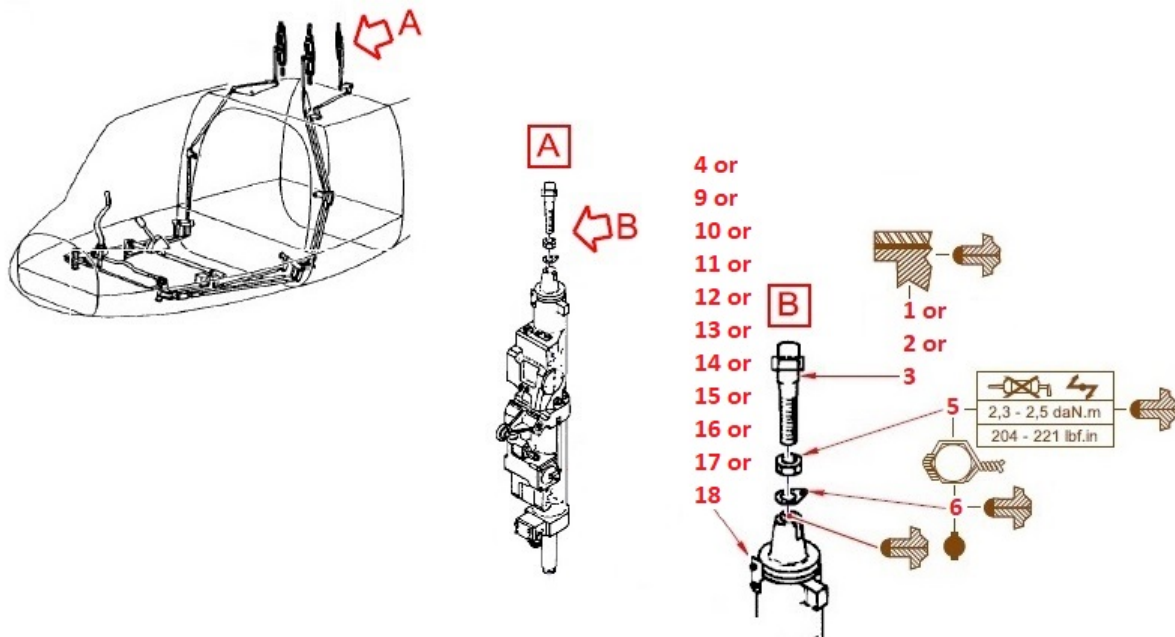

Figure 1
- 4.2. Do a check of the nut (5) tightening torque of the Ball bearing end EMRL8RSP3D (1) or Ball bearing end EMRL8RSP3C (2) or Ball bearing end 6701800800 (3) of the Main rotor servo-control SC8034-2 (4) or Main rotor servo-control SC8034-1 (9) or Main rotor servo-control SC8033-2 (10) or Main rotor servo-control SC8033-1 (11) or Main rotor servo-control SC8032-2 (12) or Main rotor servo-control SC8032-1 (13) or Main rotor servo-control SC8032 (14) or Main rotor servo-control SC8031A (15) or Main rotor servo-control SC8031-2 (16) or Main rotor servo-control SC8031-1 (17) or Main rotor servo-control SC8031 (18)(Figure 1). Refer to Work Card Assembly by screws and nuts - Joining MTC 20-02-05-404.
- Torque until the marks align but do not torque to more than the max torque value given in figure 1
- Use Lock-wire CM 776 to safety the nut (5) with the nut retainer (6).
- The upper end of the Main rotor servo-control SC8034-2 (4) or Main rotor servo-control SC8034-1 (9) or Main rotor servo-control SC8033-2 (10) or Main rotor servo-control SC8033-1 (11) or Main rotor servo-control SC8032-2 (12) or Main rotor servo-control SC8032-1 (13) or Main rotor servo-control SC8032 (14) or Main rotor servo-control SC8031A (15) or Main rotor servo-control SC8031-2 (16) or Main rotor servo-control SC8031-1 (17) or Main rotor servo-control SC8031 (18)
- The nut (5)
- The nut retainer (6)
- Torque the nut (5) to the nominal values given in Figure 1.